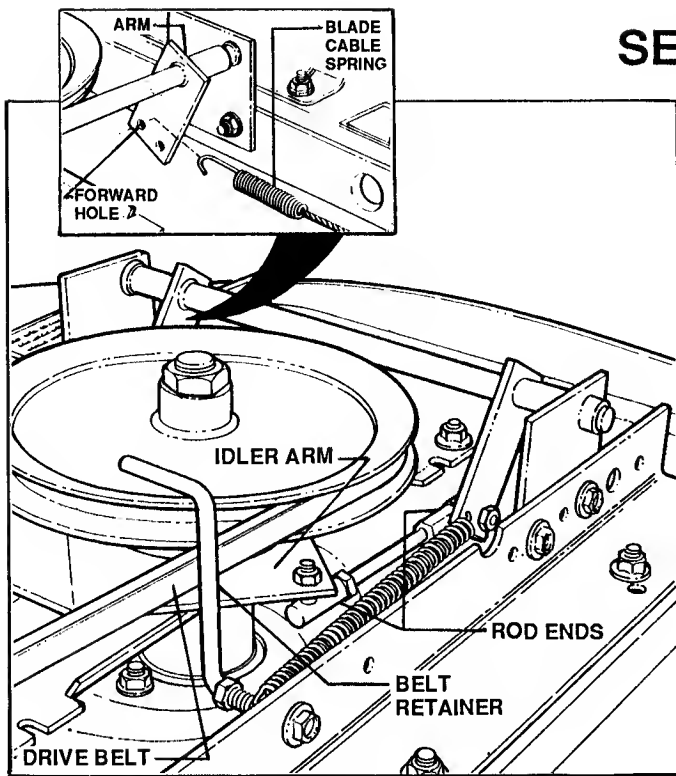

FIGURE 20
3. Remove BLADE CABLE spring from hole in CROSS SHAFT. See Figure 20.
WHEN INSTALLING BLADE CABLE SPRING, MAKE SURE SPRING IS ATTACHED IN FORWARD HOLE OF ARM (REFER TO FIGURE 20).